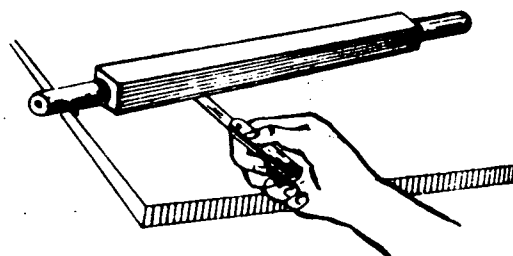

Fig. 1
- b) Determine if the axle is aligned by checking the light visually or with a feeler gauge (Fig. 1).